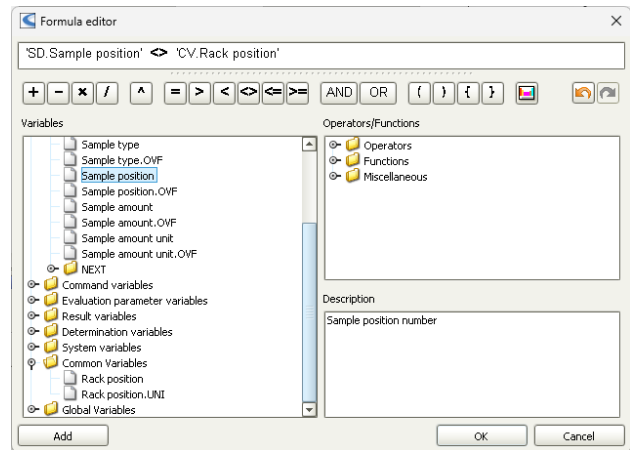

Figure 24. Formula editor to define the conditions under which the preparation of 807 Dosing Unit «5 mL Standard or sample» should be carried out.
- Use the formular editor  to define the condition (see **Figure 24**):